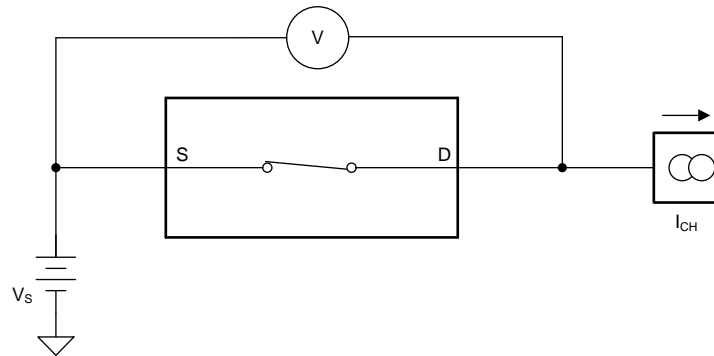

图 17. On-Resistance Measurement Setup
The on-resistance of the TMUX6104 is the ohmic resistance across the source (Sx) and drain (D) pins of the device. The on-resistance varies with input voltage and supply voltage. The symbol R_{ON} is used to denote on-resistance. The measurement setup used to measure R_{ON} is shown in 图 17. Voltage (V) and current (I_{CH}) are measured using this setup, and R_{ON} is computed as shown in 公式 1: